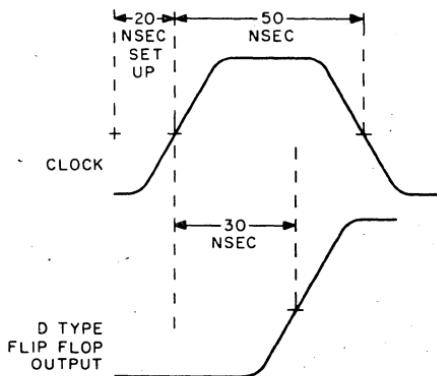

Figure 13. D Type Flip-Flop Timing
**Flip-Flop Propagation Delays:** D type flip-flops trigger on the leading edge of a positive clock pulse; the propagation delay is measured from the threshold point of this edge. The set-up time of the D flop is also measured from this threshold point. Data on the D input must be settled at least 20 nanoseconds prior to the clock transition. The advantage of the D-flip-flop, however, is that the leading edge triggering allows the flip-flop AND gates to propagate while the clock pulse is still high. Figure 13 illustrates this situation.